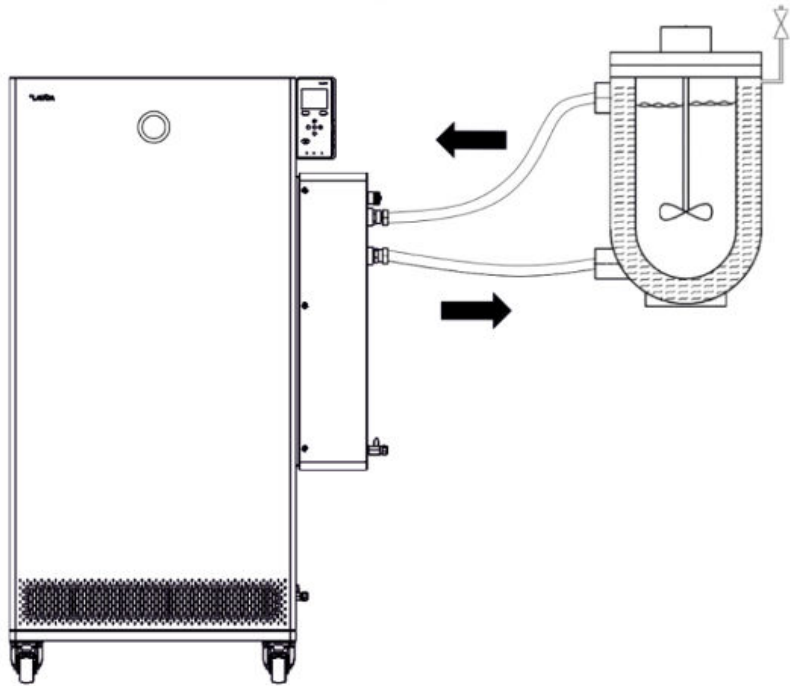

Fig. 12: Connection diagram with vent valve
- Depending on the type of application, a vent valve can significantly simplify the aeration process. The vent valve must be located at the highest point of the circuit (Fig. 12).
The external application must be connected according to the sketch (Fig. 12) so that gas/vapor bubbles can be removed from the system and undisturbed operation is possible. The outflow of the device on the connecting sleeve pressure side must be connected to the lower connection of the application. The return line to the connecting sleeve inflow must be connected to the top connection of the application. The application is thus flowed through from bottom to top.